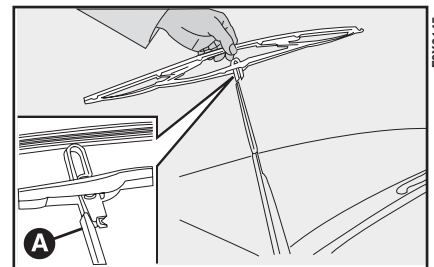

fig. 161
- 1) raise the windscreen wiper arm A-fig. 161 and position the blade so that it forms an angle of 90° with the arm;